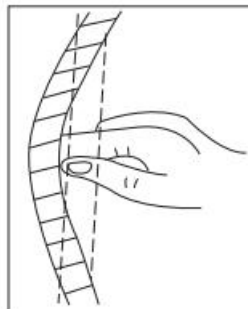

Figure 2
3. Press down on the belt with hand. The belt should move 1/2" when set properly. (as figure 2)